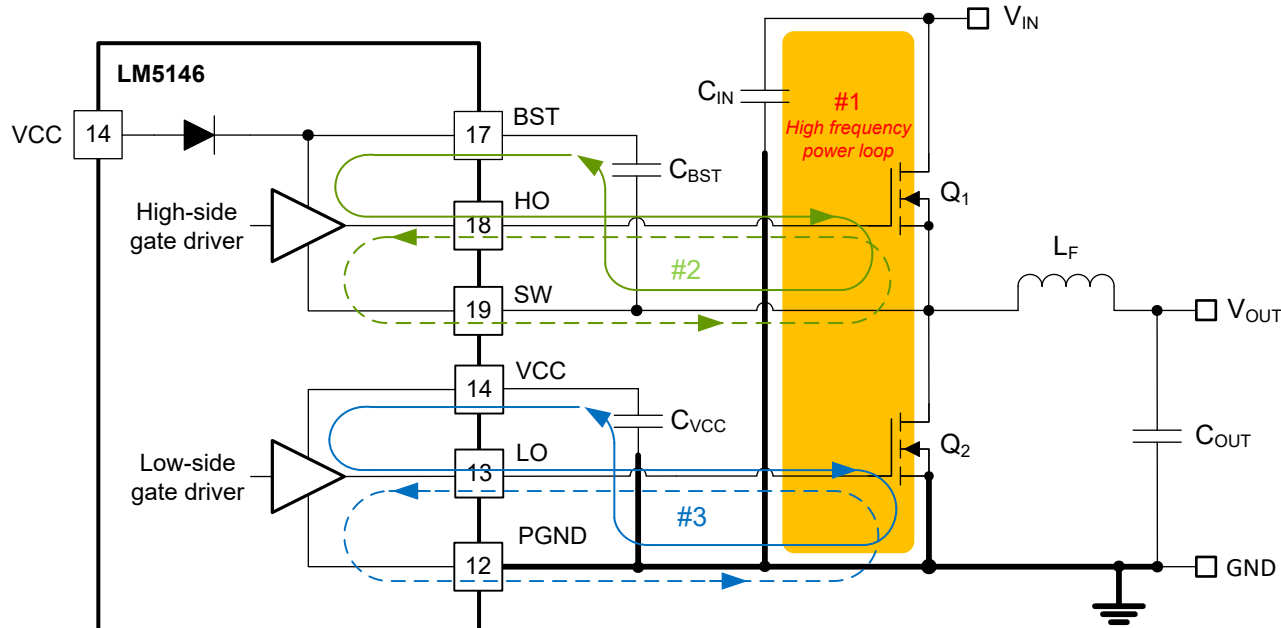

Figure 11-1. DC/DC Regulator Ground System With Power Stage and Gate Drive Circuit Switching Loops
Proper PCB design and layout is important in a high-current, fast-switching circuits (with high current and voltage slew rates) to assure appropriate device operation and design robustness. As expected, certain issues must be considered before designing a PCB layout using the LM5146. The high-frequency power loop of the buck converter power stage is denoted by #1 in the shaded area of Figure 11-1. The topological architecture of a buck converter means that particularly high di/dt current flows in the components of loop 1, and it becomes mandatory to reduce the parasitic inductance of this loop by minimizing its effective loop area. Also important is the gate drive loops of the low-side and high-side MOSFETs, denoted by 2 and 3, respectively, in Figure 11-1.
- Loop #1: The most important loop to minimize the area of is the path from the input capacitor or capacitors through the high- and low-side MOSFETs, and back to the capacitor or capacitors through the ground connection. Connect the input capacitor or capacitors negative terminal close to the source of the low-side MOSFET (at ground). Similarly, connect the input capacitor or capacitors positive terminal close to the drain of the high-side MOSFET (at VIN). Refer to loop #1 of Figure 11-1.
5. The SW pin connects to the switch node of the power conversion stage and acts as the return path for the high-side gate driver. The parasitic inductance inherent to loop #1 in Figure 11-1 and the output capacitance (C_{OSS}) of both power MOSFETs form a resonant circuit that induces high frequency (> 100 MHz) ringing on the SW node. The voltage peak of this ringing, if not controlled, can be significantly higher than the input voltage. Ensure that the peak ringing amplitude does not exceed the absolute maximum rating limit for the SW pin. In many cases, a series resistor and capacitor snubber network connected from the SW node to GND damps the ringing and decreases the peak amplitude. Provide provisions for snubber network components in the PCB layout. If testing reveals that the ringing amplitude at the SW pin is excessive, then include snubber components as needed.
- Loop 2: high-side MOSFET, Q_1 . During the high-side MOSFET turnon, high current flows from the bootstrap (boot) capacitor through the gate driver and high-side MOSFET, and back to the negative terminal of the boot capacitor through the SW connection. Conversely, to turn off the high-side MOSFET, high current flows from the gate of the high-side MOSFET through the gate driver and SW, and back to the source of the high-side MOSFET through the SW trace. Refer to loop #2 of Figure 11-1.
- Loop 3: low-side MOSFET, Q_2 . During the low-side MOSFET turn-on, high current flows from the VCC decoupling capacitor through the gate driver and low-side MOSFET, and back to the negative terminal of the capacitor through ground. Conversely, to turn off the low-side MOSFET, high current flows from the gate of the low-side MOSFET through the gate driver and GND, and back to the source of the low-side MOSFET through ground. Refer to loop #3 of Figure 11-1.